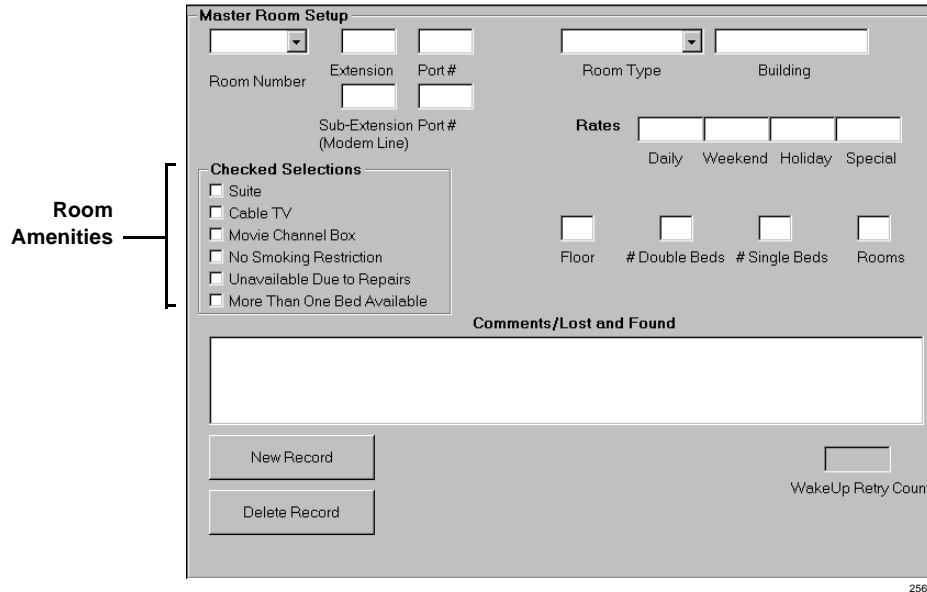

Figure 15-17 Master Room Setup Screen
This screen (see Figure 15-17) enables you to enter, modify, or delete a room record. Records consist of room number, extension, type, location, rates, amenities and comments. (See Table 15-7 for screen field descriptions.)
2. Click Rooms.	The Master Room Setup screen displays (see <a href="#">Figure 15-17</a> ).
The Master Room Setup screen displays (see Figure 15-17). You can use the field pull-down menu to select the room.